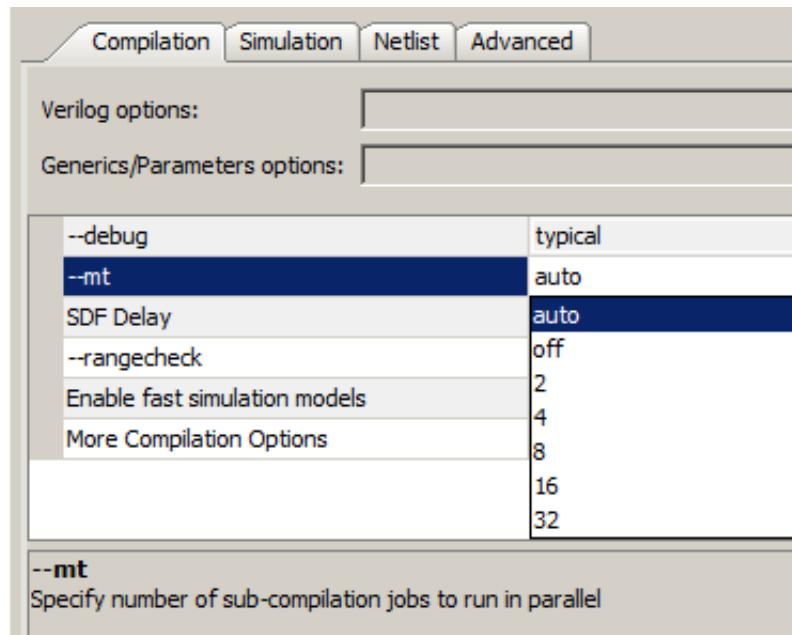

Figure 3-4: **--mt Options in Simulation Settings: Compilation View**
- -mt: Is set to **auto** by default. This option lets you specify the number of sub-compilation job to run in parallel. When you select the option, a drop-down menu displays the following selections as shown in Figure 3-4, page 41: **off**, **2**, **4**, **8**, **16**, and **32**.